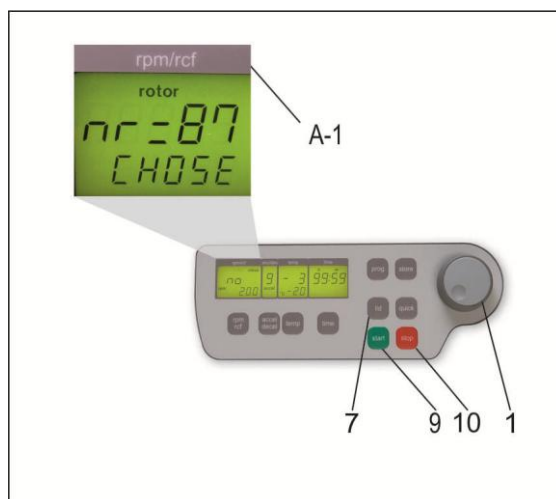

Figure 2
Switch on the unit and open the lid. Now simultaneously press the keys, "lid " (7) and "stop"(10). In the display, "rpm/rcf" (A-1), appears the previously selected rotor type, i. e. "96". With the potentiometer (1), choose the previously used rotor, (see Figure 2). Select the data in the unit, please press the "start" (9) key. Inside the display, (A-1), the word "store" appears, as the confirmation.